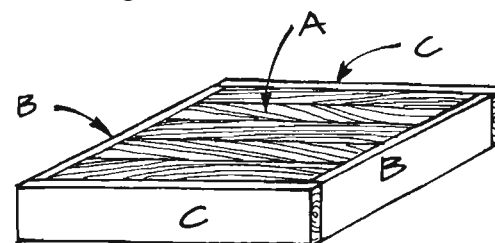

Figure 1
1. The top (A) is simply a 20-inch-square section of laminated pine that is framed by 1 x 4 pine boards. Cut two short frame pieces (B) from 1 x 4 pine, each 20 inches long.
2. Glue and screw the two short frame pieces (B) to opposite edges of the laminated square top (A), as shown in *Figure 1*. The edges of the short frame pieces (B) should be flush with the top surface of the laminated square top (A). Use 1-1/4-inch-long screws, and space them about four inches apart. Countersink the screws.
3. Cut two long frame pieces (C) from 1 x 4 pine, each 21-1/2 inches long.
4. Glue and screw the two long frame pieces (C) to the remaining two edges of the laminated square top (A), as shown in *Figure 1*. The long frame pieces (C) cover the exposed ends of the short frame pieces (B). Again use glue and 1-1/4-inch-long screws placed about every four inches. Countersink the screws.